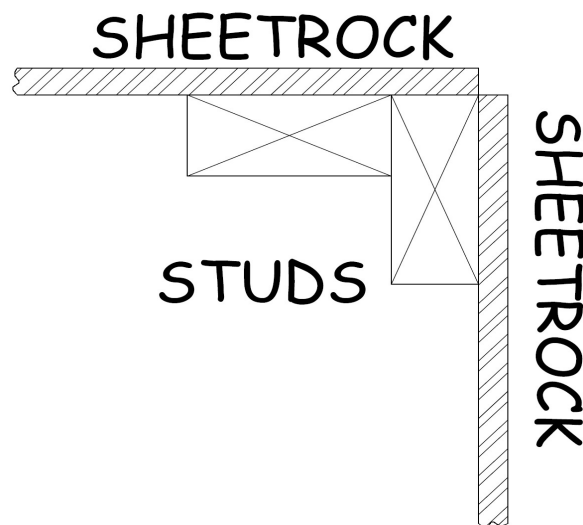

Figure 14-6. Top View of Outside Corner Installation of Sheetrock.
10. On outside corners of walls, install a piece of sheetrock on the first wall so its corner side edge is flush with the outside edge of the corner stud. Score and snap (or saw-cut) this piece flush to the corner. (An acceptable tolerance is a maximum of ¼" short of the corner, but do not allow the piece to extend past the outside edge of the corner stud.) Form a recessed corner by installing the second sheetrock piece on the adjacent wall so its edge is flush with the other outside edge of the corner stud. The outside corner ends of the sheetrock should not overlap the corner (see Figure 14-6).